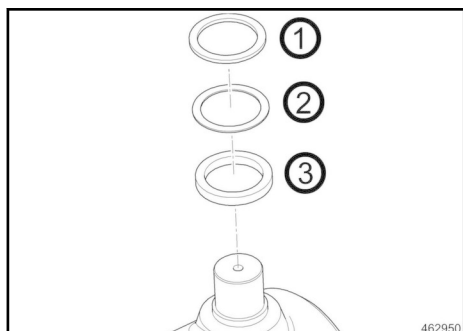

Fig. 206
Install new seal rings (3) ↪ Fig. 206, shims (2) and supporting discs (1) to the bearing journals of the bearing housing.